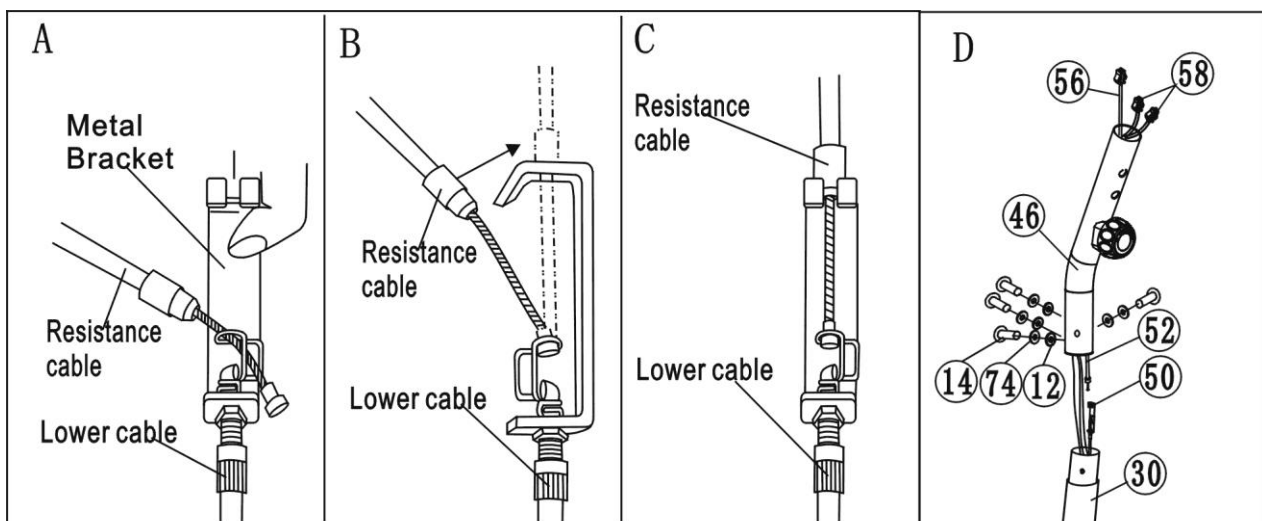

Figure 3
Put the cable end of the resistance cable for the Tension control (56) into the spring hook of Tension control wire (50) as shown on drawing **A** of figure 3.
Pull the resistance cable for the Tension control (52) up and force it into the gap of metal bracket of Tension control wire (50) as shown on drawing **B** of figure 3.
Connect the resistance cable of Tension control (52) with the Tension control wire (50) completed as shown on drawing **C** of figure 3.
Insert the Front upright tube (46) into the tube of Main frame (30) and secure it with four Bolts (14), Spring washer $\varnothing 8$ (74) and Arc washers (12). See drawing **D** of figure 3-D.